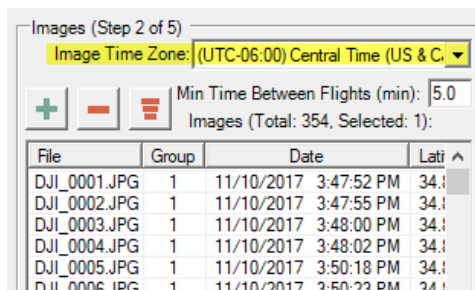

Figure 7 - Image Time Zone
5. In the Image Time Zone pull-down, select the time zone from which the images were collected (Figure 7).